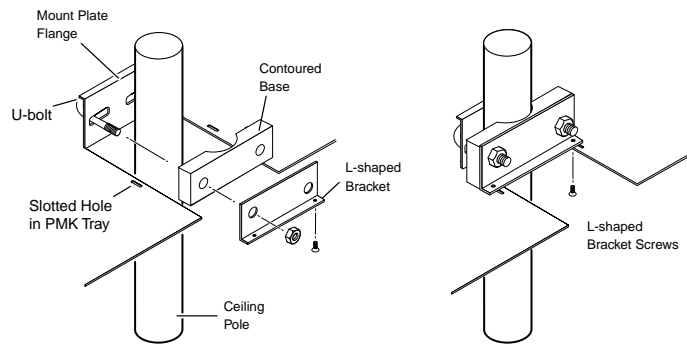

Figure 2-8 — Hanging the tray on the pole
6. Assemble the U-bolt and the following parts in the following order (figure 2-8):